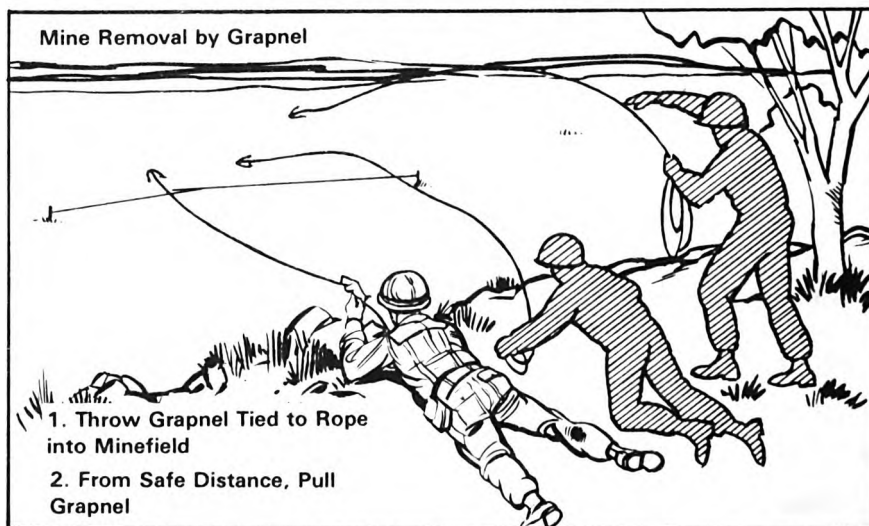

Figure 1.
2. Use of Grapnels (figure 1). This is the safest method of destroying tripwire or tilt rod fuzed mines.